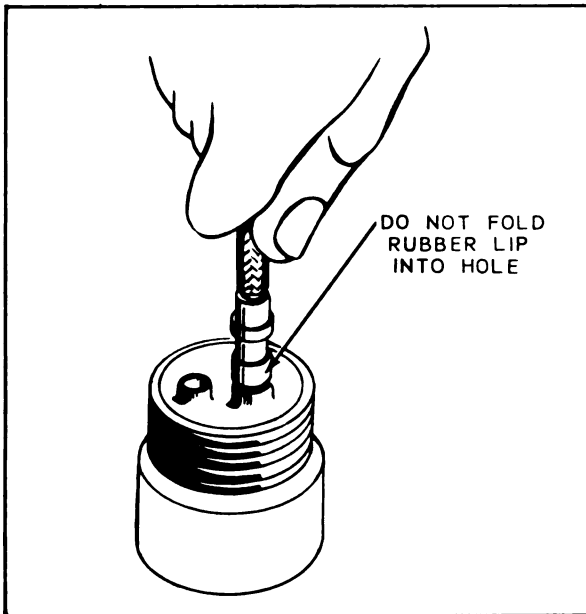

Figure 3-57. Reinstalling Contact in Bendix Resilient Insert
f. Reinstall large contacts by pushing them through rear of insert until seated. Use ethyl alcohol as a lubricant, if necessary. Install each contact, when cool, before proceeding to solder next contact. This will help avoid errors. Use a bakelite screwdriver to aid in seating contacts. (See figure 3-57).